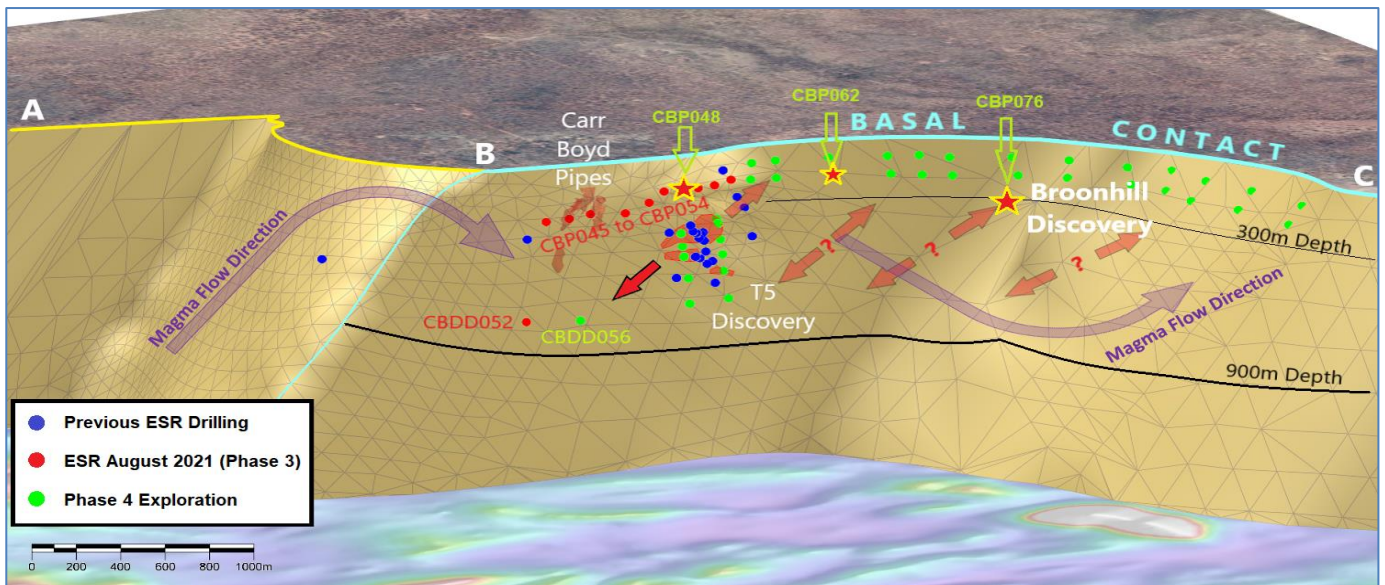
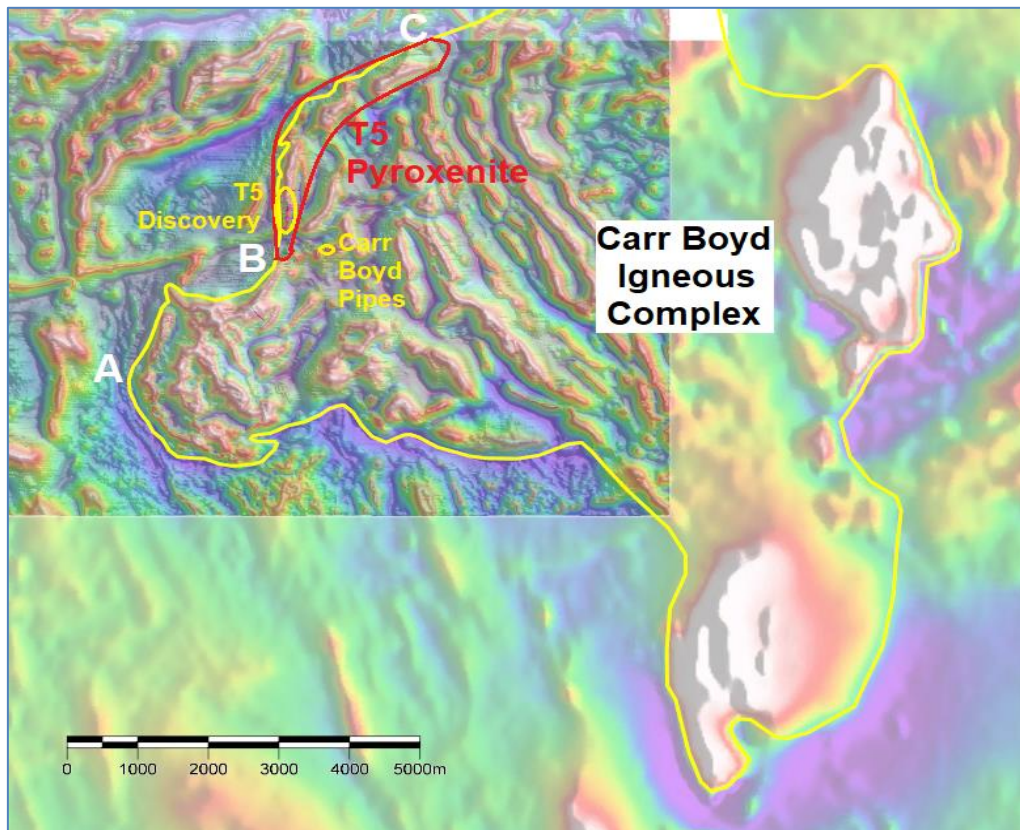

Figure 2: 3D rendering of the Basal Contact showing the CBDD056 intersection down plunge of the T5 Discovery.
Figure 3: Plan view of the regional magnetics and the location of the Basal Contact, in particular A-B-C location points of the 3D rendered surface.
- Reverse Circulation (RC) drillhole CBP076 intersects 12m⁽¹⁾ zone of nickel-copper sulphides including 2m of basal massive sulphides (Figure 1 and Figure 2) at Broonhill
- Assays received for CBP048 RC drillhole above T5 (Figure 2 and Figure 4)
(1) Downhole intersection quoted, true width cannot be estimated due to the spacing of the RC drilling and variation in the orientation of the basal contact.
(2) See ASX Announcement dated 28 May 2019
Estrella Resources Limited (ASX: ESR) (Estrella or the Company) is pleased to announce the discovery of a new zone of massive nickel-copper sulphides at Broonhill, 1.4km north of the T5 massive sulphide discovery, within the T5 Pyroxenite (Figure 2).
The basal contact in this area has not received any historic drilling and the Company's vectored exploration model has been pointing towards this area as being highly prospective (Figure 2). The Phase 4 Northern RC Program was initiated to address this and to date has intersected varying degrees of sulphide mineralisation, some of which have been previously reported as significant (see ASX announcements dated 10th September 2021 and 5th October 2021).
The Phase 4 RC program still has another 2km of highly prospective basal contact yet to explore (Figure 2 and Figure 3). Historically, this area has received no historical drilling specifically targeting sulphides on the basal contact.
Figure 4 below shows the relationship between CBP048 (Semi-Massive), CBP043 (the 2019 discovery RC hole, 8m @ 1.11%Ni & 0.36% Cu) and the main T5 Massive Sulphide. This relationship highlights the significance of the CBP076 intersection announced above, and the potential that exists on the T5 – Broonhill basal contact at depth for the discovery of more massive sulphides (Figure 2).